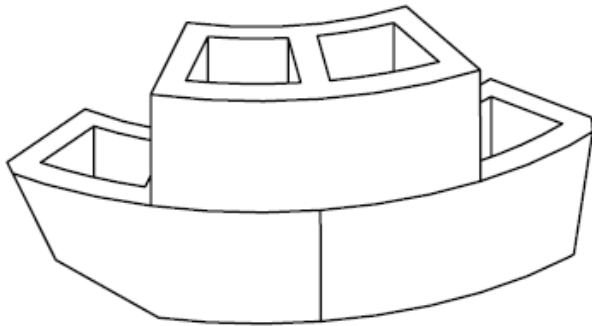

Figure 8 - Staggered Blocks
3. When starting second layer, stagger blocks to the first layer (see Figure 8). For the BOFP24-48, use 8 blocks to build the second layer. After laying out all blocks, using a level, verify all the blocks are level. Shim if necessary.